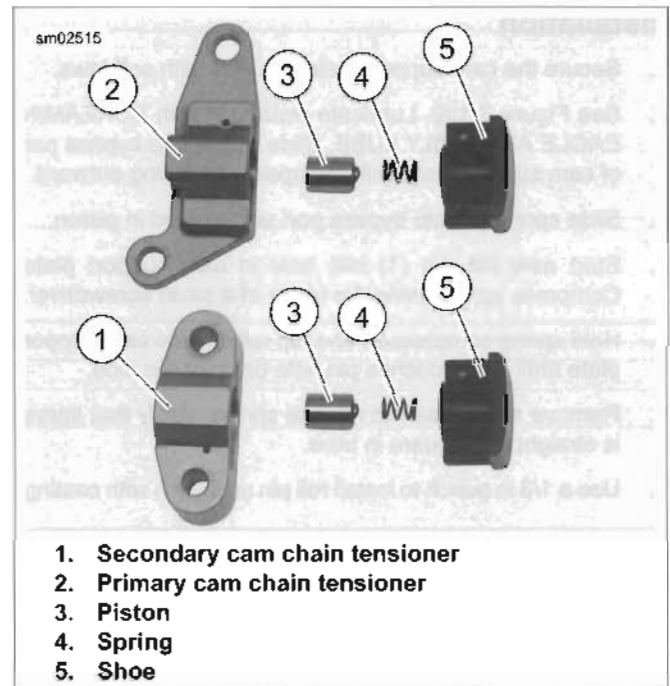

Figure 3-99. Cam Chain Tensioner Assemblies
- b. See Figure 3-99. Be sure primary and secondary cam chain tensioners are assembled as shown. If assembled incorrectly, tensioners will not function properly.